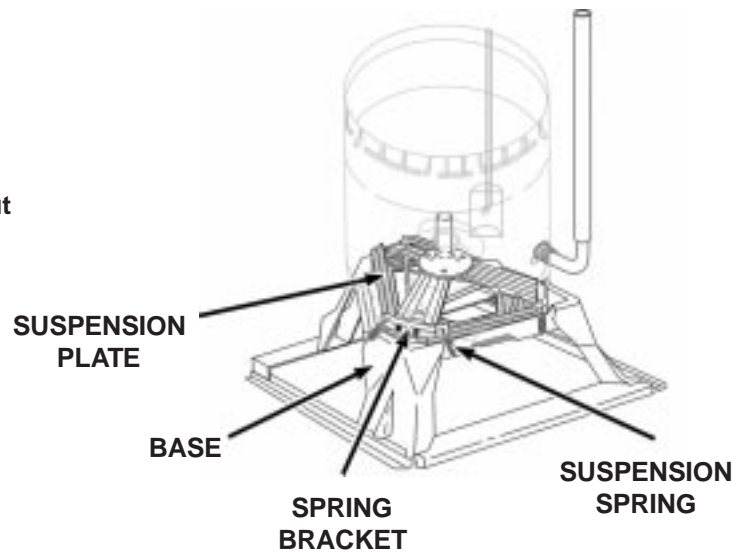

Fig. 3-17
5. The tub assembly is secured to the tub support at three locations. There are two screws, a suspension spring and a locating tab at each of these locations. (Fig. 3-17)